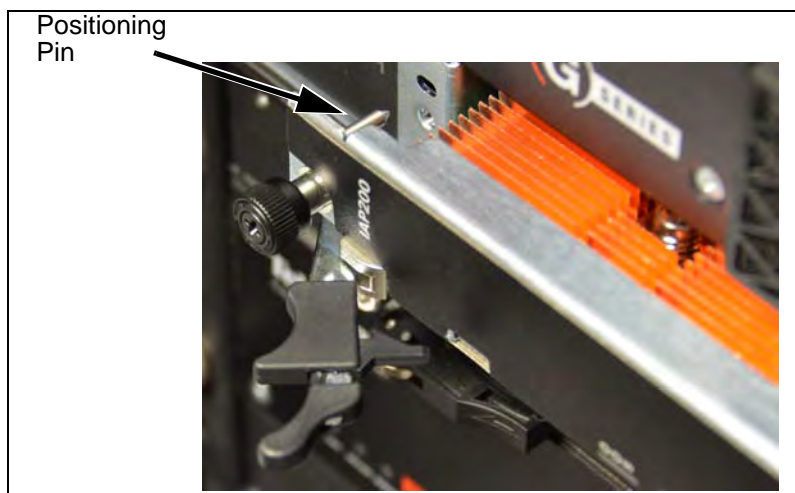

Figure C.20 - IAP Alignment
3.	Guide the positioning pins of the blade until they are inserted in the positioning holes in the chassis (Figure C.20).